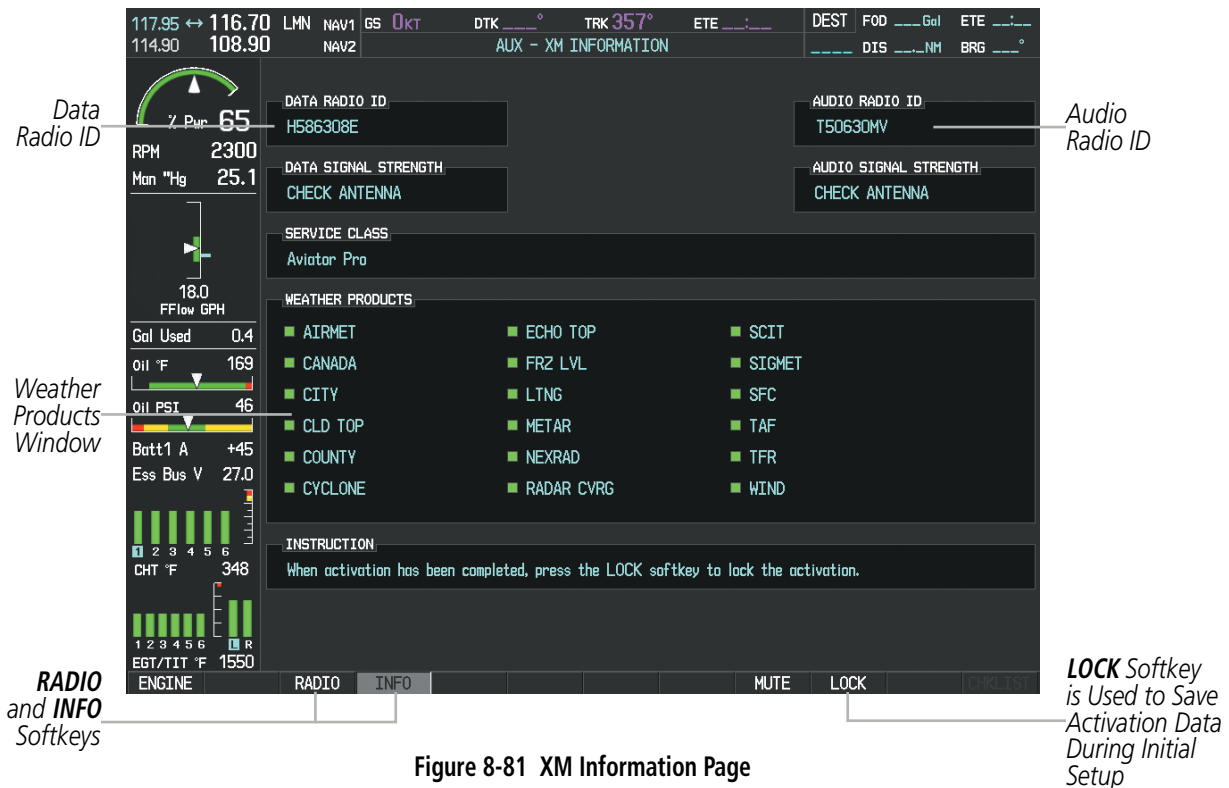

Figure 8-81 XM Information Page
- On the XM Information Page on the MFD (Figure 8-81)